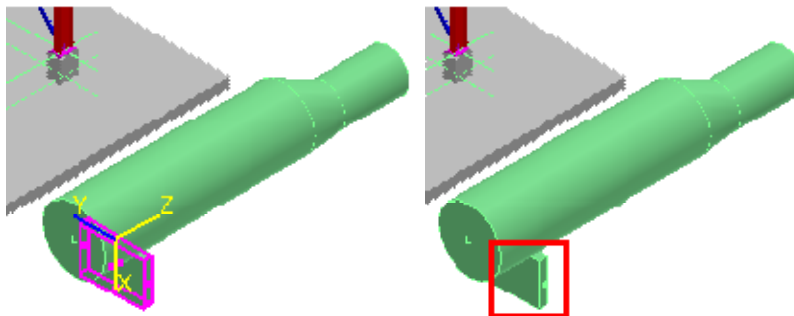

Figure 24: The First Rectangle Placed
22. Press the **Right Arrow** key to rotate the rectangle and place it, as shown in Figure 24.